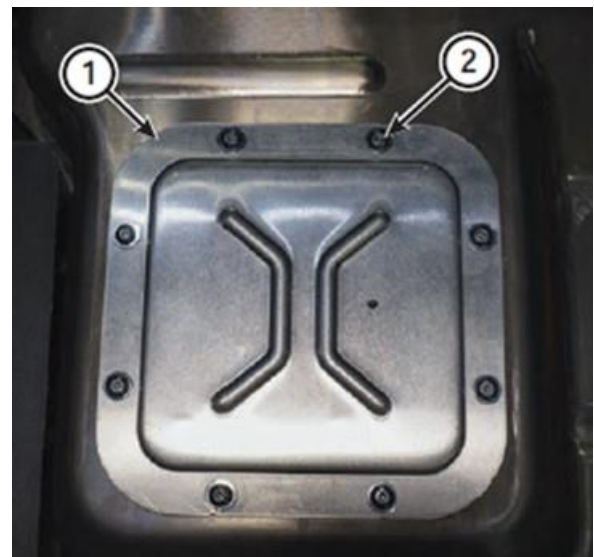

Figure 13 – Test Point Access Cover
17. Install the test points access cover (1) to the battery pack and tighten the eight M6 Torx screws (2) to 8.8 N·m (78 in. lbs.) (Figure 13).